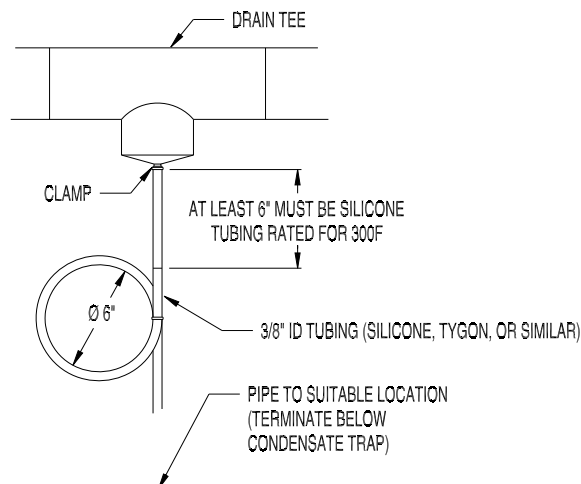

Figure 7-12: Condensate Trap/Drain Detail
- i. Trap must have the basic configuration shown in Figure 7-12. All tubing is 3/8" I.D.